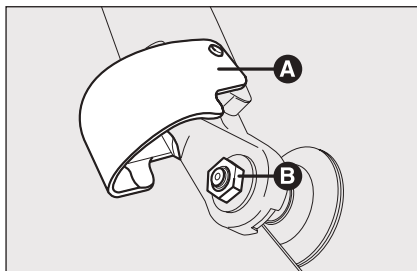

fig. 24
- ☐ raise the cover **A**-fig. 24 and remove the arm from the car, slackening the nut **B** that fastens it to the pivot pin;